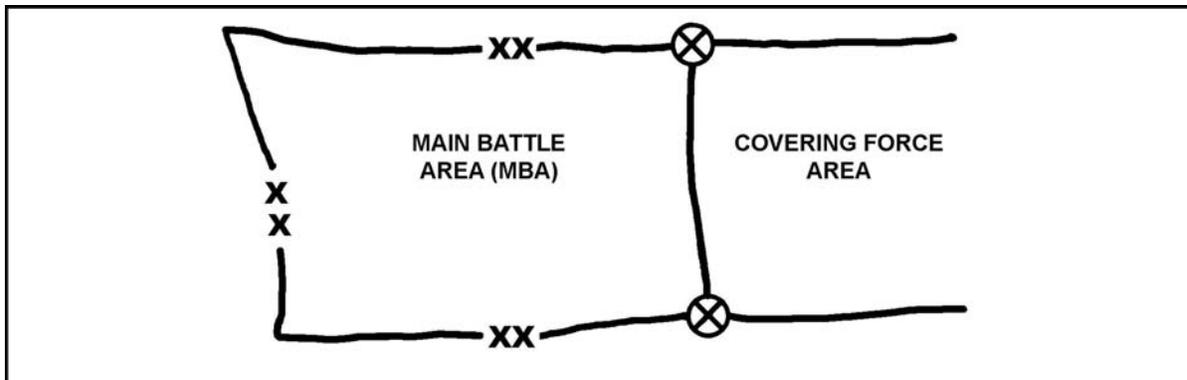

Figure 071-332-5000-17. Organizing the defensive battlefield.
- k. Depict defended areas. If an area is occupied and the defense of the area is prepared, a line (including the size symbol of the defending unit) encloses the area, and the closed side of the symbol is oriented toward the most likely enemy threat. If desired, the military symbols of the unit may be entered in the center of the enclosed area. Figure 071-332-5000-18 shows a defensive area for 2d Platoon, C Company, 1st Battalion, 6th Infantry, and a proposed defensive area for B Company, 3d Battalion, 52d Infantry.